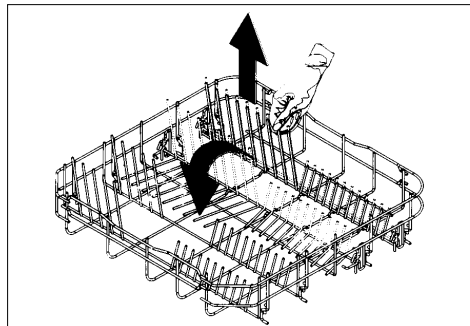

fig. 10
- The plate racks can be flipped upwards (see fig. 10), depending on the model.